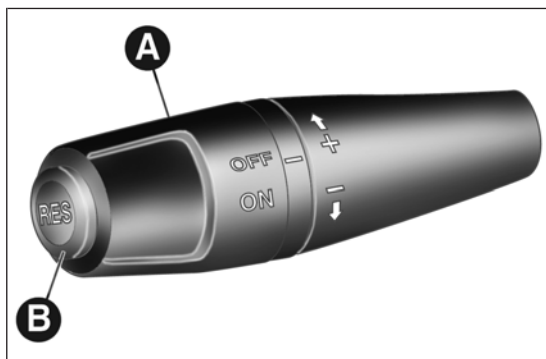

fig. 42
Turn ring nut A fig. 42 to ON.
- turn ring nut A fig. 42 to ON and press the accelerator to reach the required speed.
- press the RES button (B fig. 42).
- turn ring nut A fig. 42 to OFF;
If operation is inadequate or the device is faulty, turn ring nut A fig. 42 to OFF and contact Alfa Romeo Authorized Services.